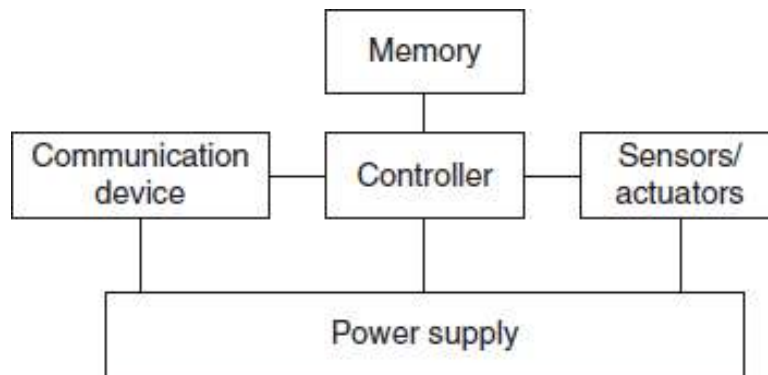

Figure 2.2 Hardware Components of Sensor Node
- A basic sensor node comprises five main components such as (Figure 2.2)